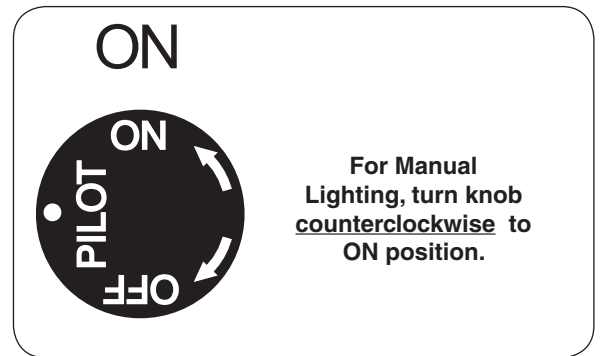

Fig. 23-3 Control knob detail (ON)
2. Turn the gas control knob counterclockwise to **ON** (Fig. 23-3) to ignite the burner. The valve will open and the burner will light.
**WARNING:** If the burner fails to light within 5 seconds, turn the control knob clockwise to **PILOT**. Allow five (5) minutes for any gas in the unit to dissipate, then repeat step 2 above. **IF YOU SMELL GAS, SEE STEP B AT BEGINNING OF LIGHTING INSTRUCTIONS.**